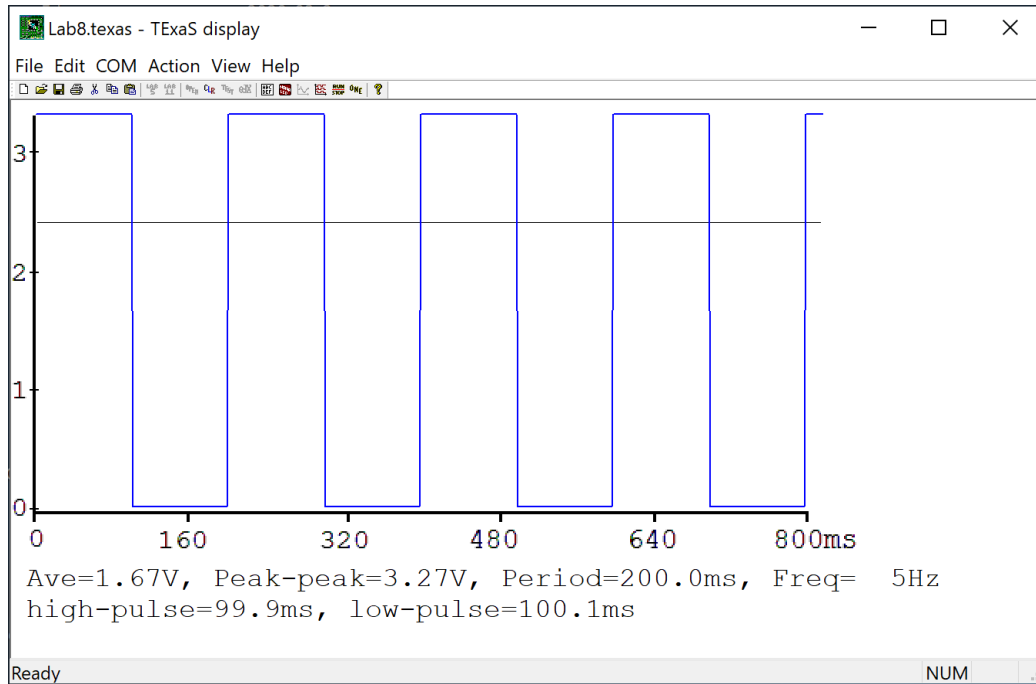

Figure 8.8. The oscilloscope connected to the LED pin verifies the sampling rate is 10 Hz .
Debug this system on the real TM4C123. Use the **TEaSdisplay** oscilloscope to observe the sampling rate (**connect LED signal to PD3**). Take a photograph or screenshot of the LED toggling that verifies the sampling rate is exactly 10 Hz, as is shown in Figure 8.8.
6. A photo or screenshot verifying the sampling rate is 10 Hz, like Figure 8.8 (part i)